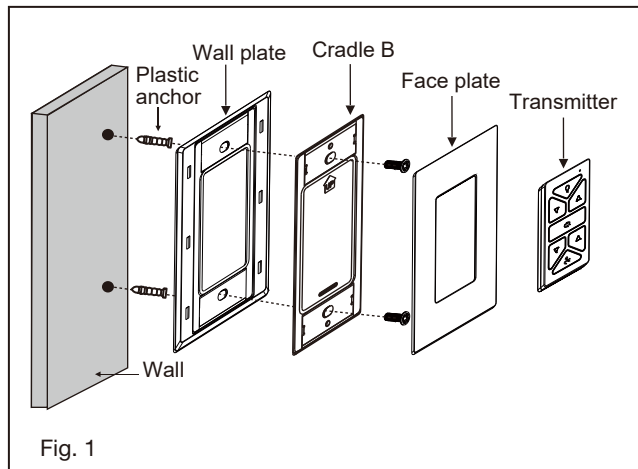

Fig. 1
- 1 Fasten blade arm to motor with provided blade arm screws. Repeat procedure for remaining blade arm. Make sure screws are **TIGHT** ! Loose motor screws can contribute to unnecessary hum during operation (Fig. 1) .
- 1 Select a desired location. Use the wall plate to mark the location of the mounting holes. Plastic wall anchors or mounting screws are needed for this application. (Fig. 1)